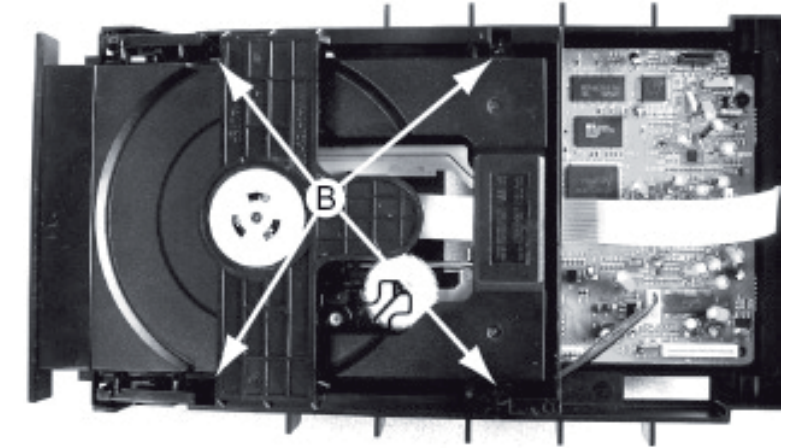

Figure 4
- 1) Slide out the Loader Tray fully and remove 4 screws B (see Figure 4) to detach the Universal Loader (pos 58) from the Bracket Module Mounting (pos 54).